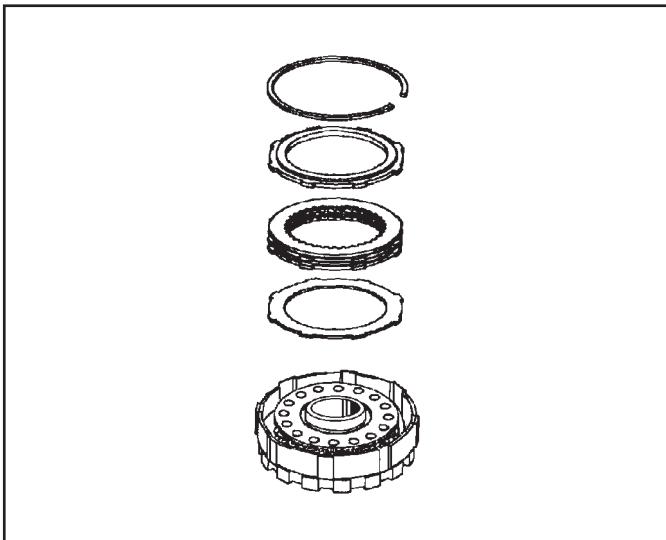

Figure 104
1. Remove the backing plate snap ring, the backing plate, the single sided clutch plates and clutch apply plate (See Figure 104).